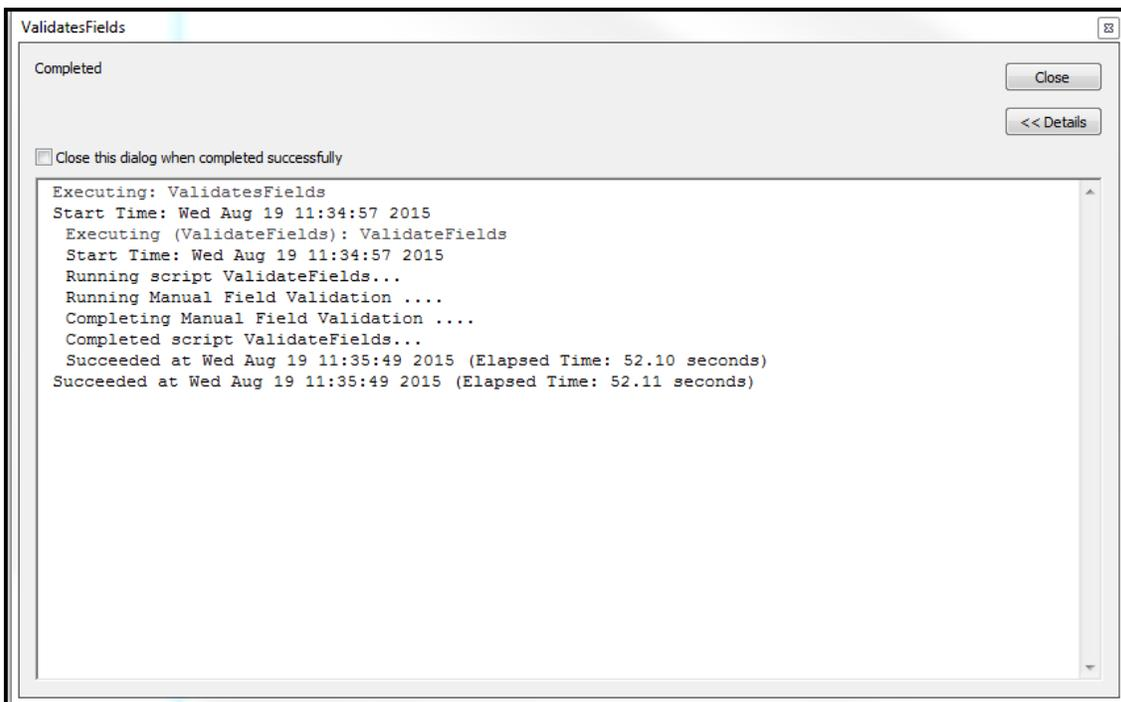

Figure 93: The Validate Fields Completed Dialog Box
4. If the shapefile passes validation, a dialog box indicating the validation process has completed appears, as depicted in Figure 93 below.